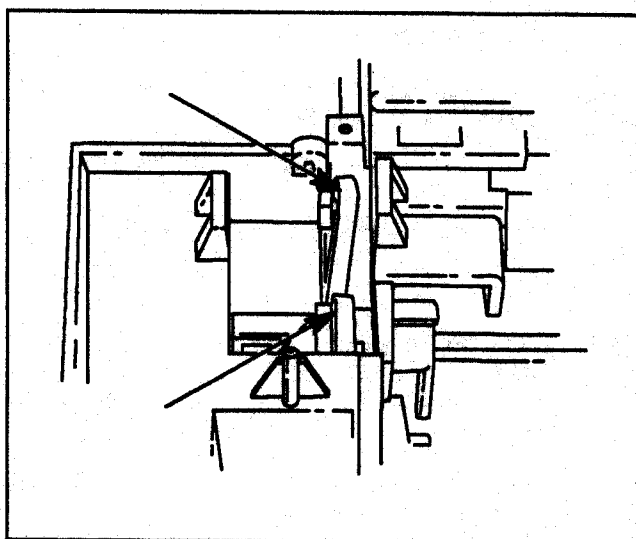

Figure 6-25. Paper Alignment Arms Removal
- h. Disconnect the paper alignment arms from their pivot points. See Figure 6-25.